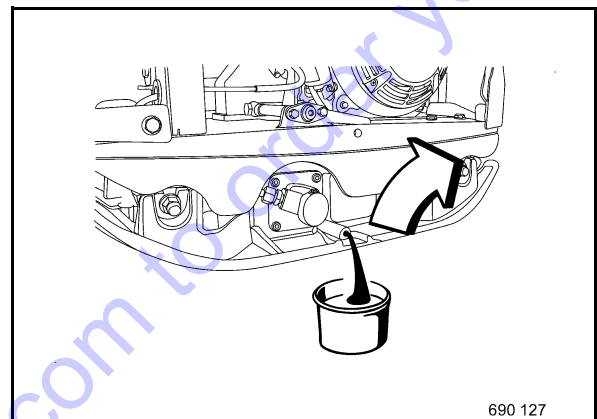

Fig. 63
- Unscrew plug (Fig. 63), catch old oil.